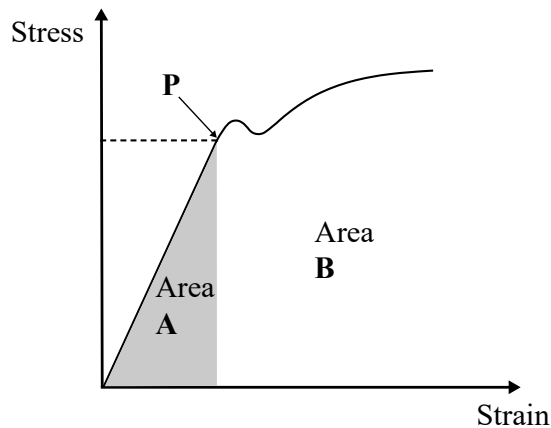

Fig. 2
- (c) Fig. 2 shows a typical stress-strain graph.